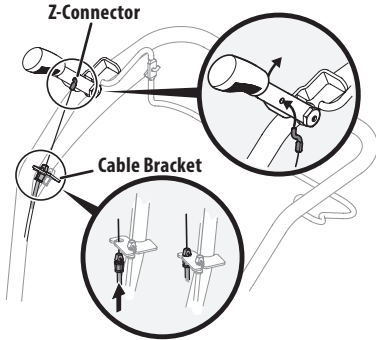

Figure 7
- Pull the reverse clutch cable (if equipped) with the red fitting up through the top hole of the cable bracket and push the cable connector up through the hole until the groove in the connector snaps into place. See Figure 7.
- Place the Z-connector into the hole in the reverse clutch handle assembly from the inside of the handle to the outside. See Figure 7.